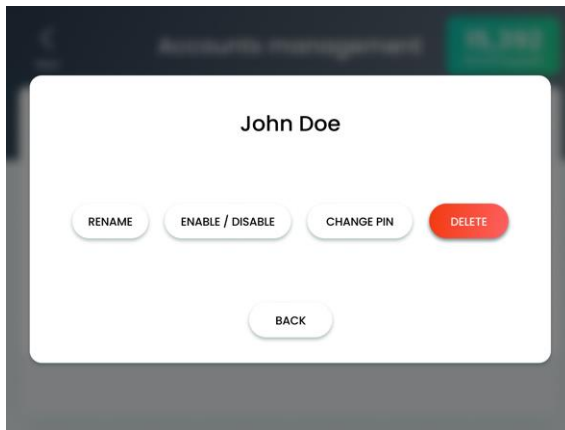

Figure 6-6. Selected User's Account Screen
2. In the Accounts screen, tap the User entry that is to be renamed; the selected user's Account screen appears, as shown in Figure 6-6.